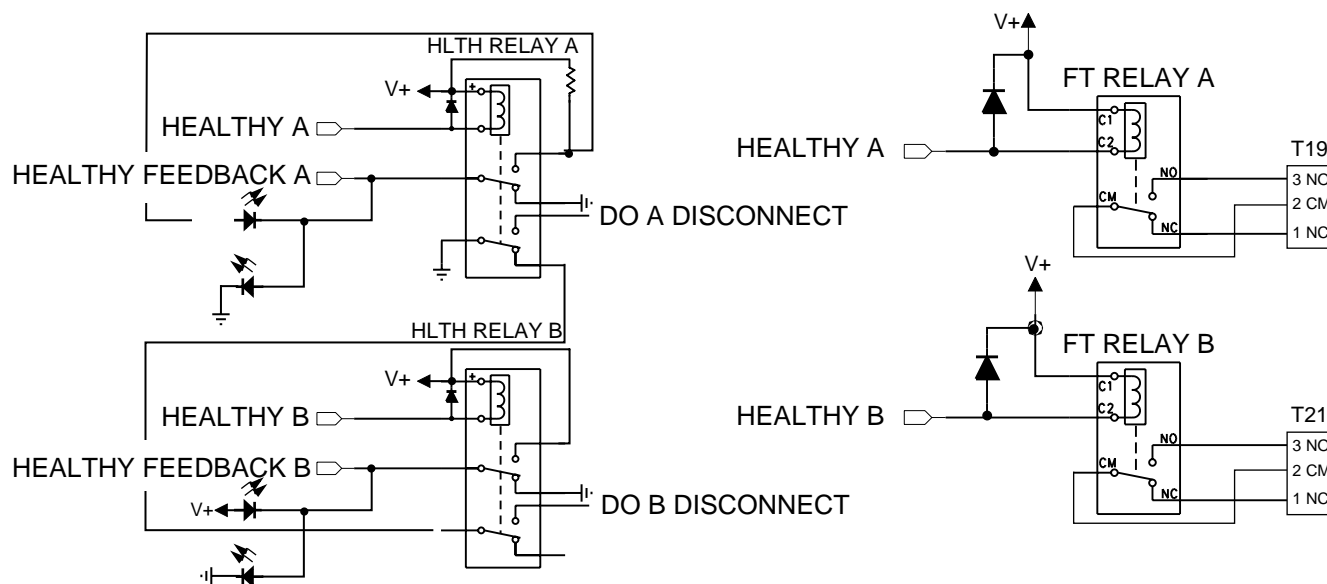

Figure 3 FTA-554 Healthy Relays and System Fault Relays
The healthy state of the local FTA is reported to the IOC card. When IOC A is Healthy, it is in control of the outputs and IOC B is disconnected. When IOC A is not Healthy and IOC B is Healthy, IOC B is in control of the outputs and IOC A is disconnected. If both IOCs are not Healthy, both are disconnected and the outputs are de-energized (NO). The healthy relays for the analog outputs on the local FTA are shown in Figure 3.
To satisfy fault relay requirements, duplex systems require each IOC set to have at least one local FTA of any type \(analog or discrete\). All FTA Fault relay contacts in the chassis will track each other. Terminal blocks T19 and T21 provide two screw terminals identified as a NO contact for the Fault relay. The NC terminals are not used. The system Fault relays are shown in Figure 3.